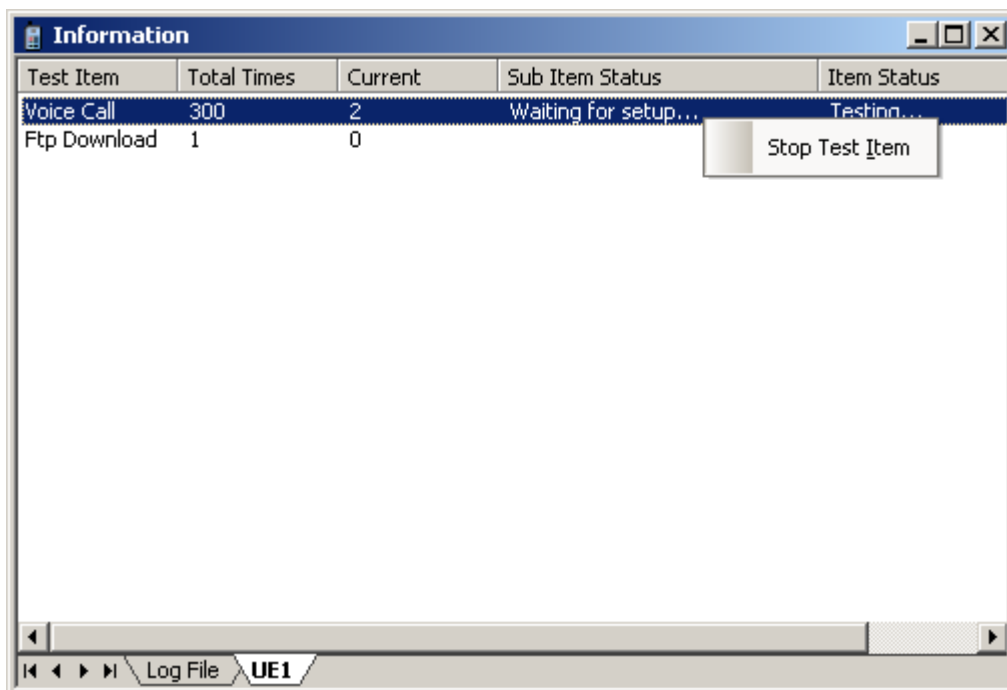

Figure 9-6 Stop Test Item option
- 2) Choose **Stop Test Item** on the shortcut menu, as shown in Figure 9-6.